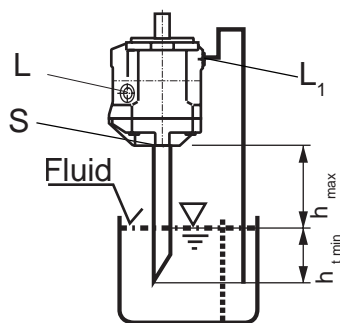

Fig. 2
- b) If the minimum fluid level is below the pump mounting surface pipe port "L₁", and possibly "S" according to Fig. 2. Close port "L" with respect to conditions in 1.2.1.
For mounting above a tank see fig. 2.